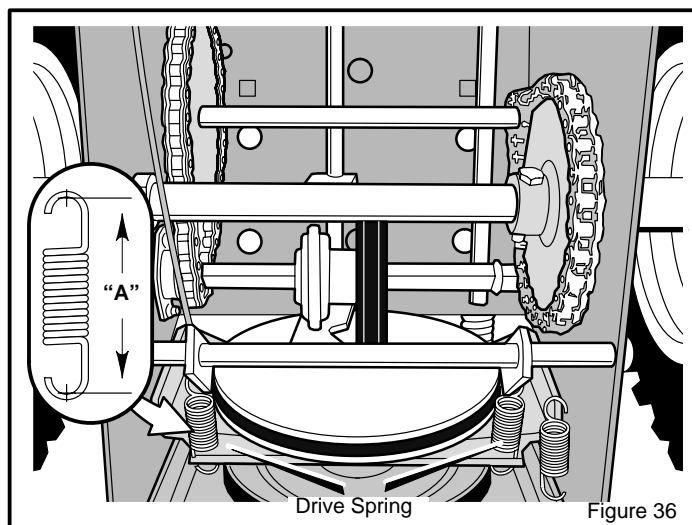

Figure 36
11. To check the adjustment, depress the drive lever and check the length of the **drive spring** (see Figure 36). In correct adjustment, the length of the **drive spring** is minimum 3 inches (76 mm.) maximum 3-3/8 inches (85 mm.).